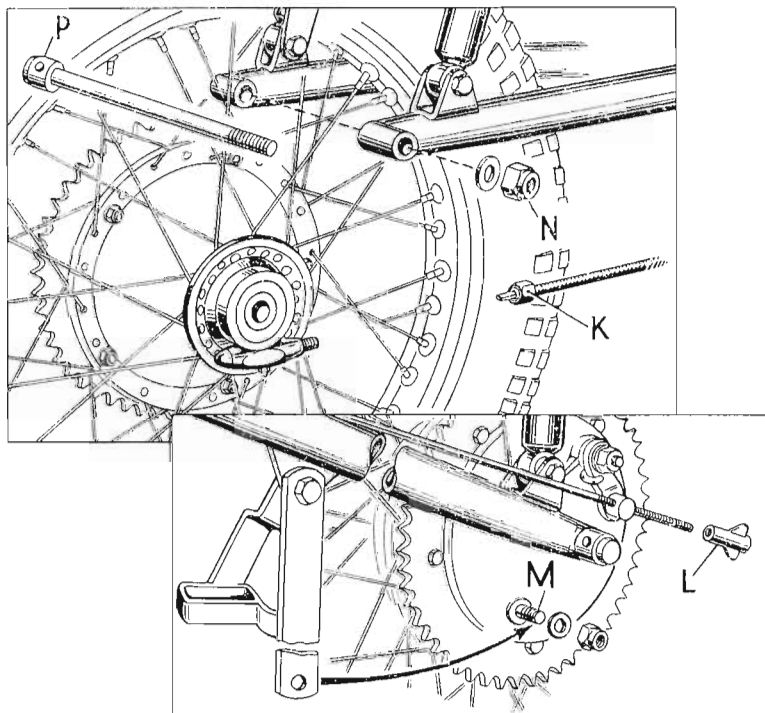

FIGURE 26. Removal of the rear wheel.
Adjustment of the brake is effected by turning the wing-nut (L) FIG. 26, in a clockwise direction (as seen from the rear of the machine).
Disconnect the speedometer cable from its driving unit at (K) FIG. 26, and then unscrew the brake adjuster (L) from the brake rod. Uncouple the chain at its spring link, and unwind it from the rear wheel sprocket, but leave it in position on the gearbox sprocket, to simplify replacement.
Disconnect the torque arm at the brake plate (M) FIG. 26, and slacken the front connection to allow the arm to remain suspended on the fork tube. Remove the wheel spindle nut (N) on the right side and with the aid of a tommy-bar, draw out the spindle (P) from the left side. Support the wheel while extracting the spindle and then lower to the ground and remove. When replacing the chain make sure that the connecting link spring clip has its closed end pointing in the direction of travel of the chain (i.e., forwards on the top run). Readjust the brake as required.